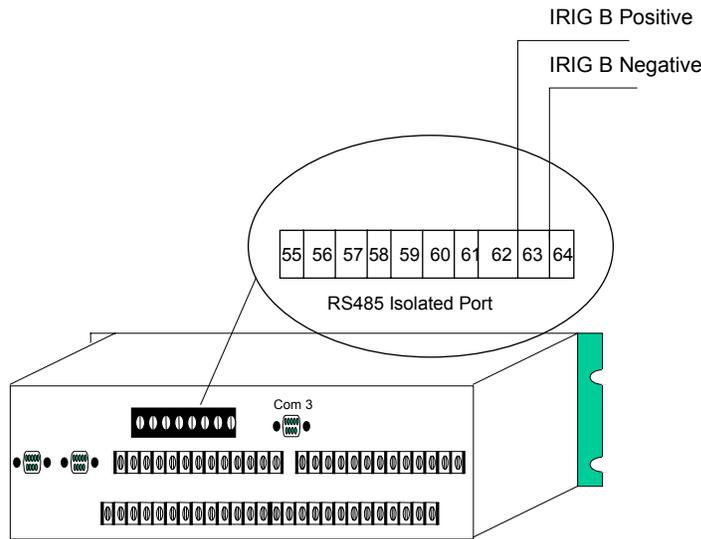
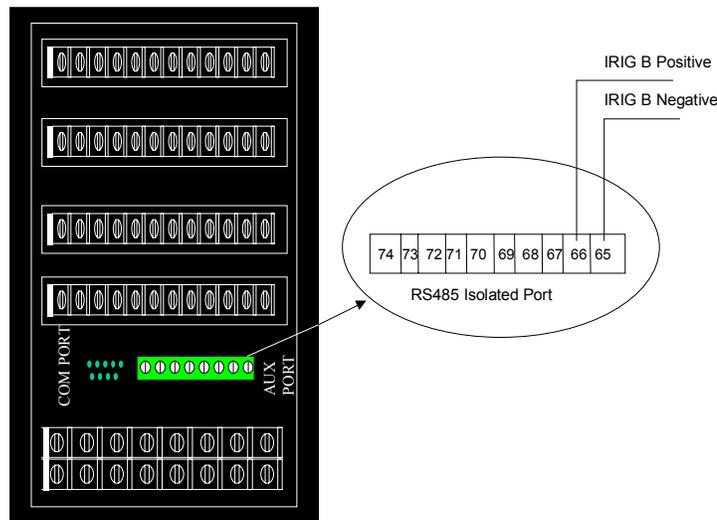

Figure 4-11. DPU/TPU/GPU2000R and DPU1500R IRIG B Connector Placement
Figure 4-12. DPU/TPU2000 IRIG B Connector Placement
Each of these units uses the AUX COM port located at the rear of the relay to accept the TTL IRIG B signal. The DPU/GPU/GPU2000R and DPU1500R use Pins 63 and 64 to accept the IRIG B negative polarity and IRIG B positive polarity signals respectively, as illustrated in Figure 4-11. The DPU/GPU2000(R) and DPU1500R use pins 65 and 66 as illustrated in Figure 4-12.